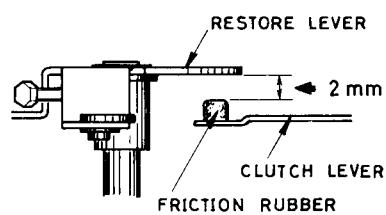

Fig. 4 Return Point Adjustment
- ★ When fixing the lever, check the distance between the restore lever and the friction rubber. The distance should be 2mm. (Fig. 4)